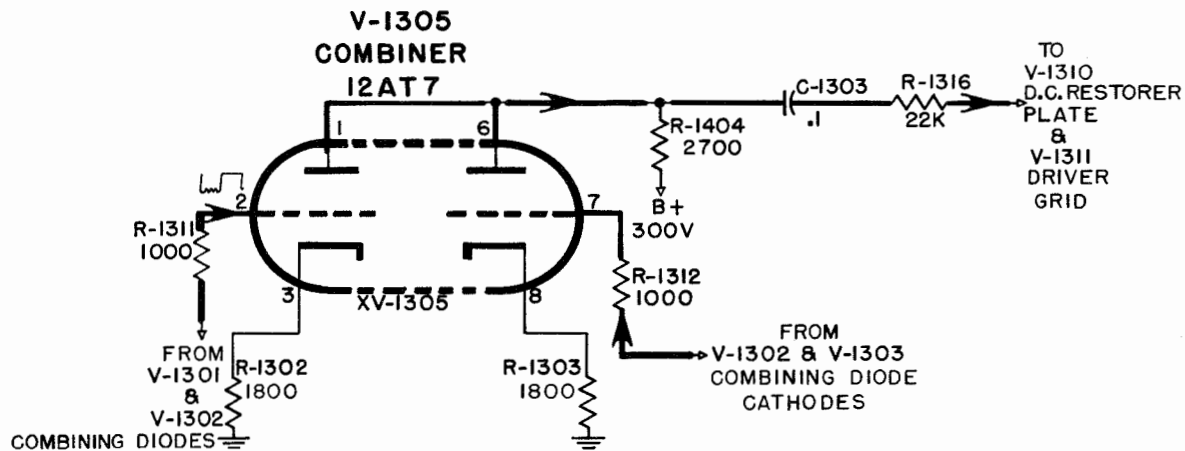

Figure 2-49. Mark-Space Combiner Stages V-1305, V-1306, Simplified Schematic Diagram
(11) MARK-SPACE COMBINERS V-1305 AND V-1306 (CM-32/FRR-24). (See Figure 2-49).—Two separate combiners are provided, one for each channel. Each combiner operates in the same manner thus the following description of combiner V-1305 is also applicable to the other combiner V-1306.